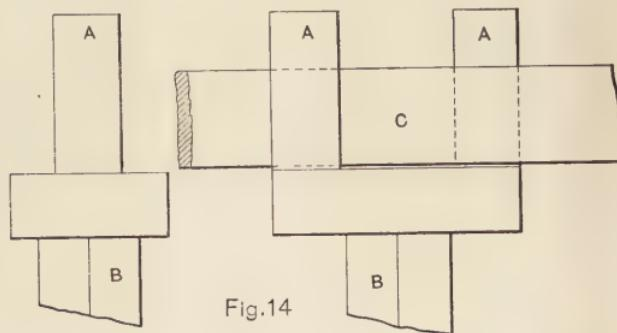

Fig.14
**Bending Fork.**—In Fig. 14 is a side and edge view of a smith's bending fork, a very handy tool and one easily made. It has a square shank *B* to fit in the anvil and two round prongs *A A* by which the bending is accomplished. A flat bar *C* is shown between the prongs in the right position for bending.